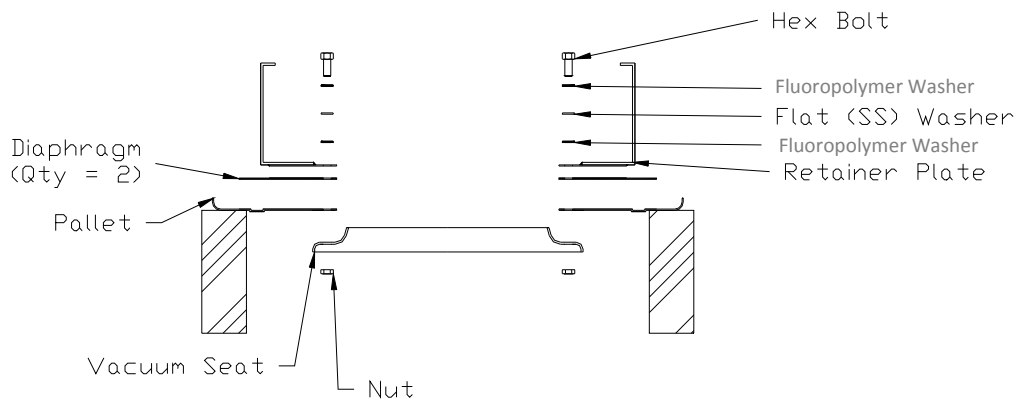

Figure 16: Exploded View of Pallet Assembly (Upside Down)
13. Turn pallet assembly upside down (Figure 16).
7. Align vacuum seat with pallet and insert 4 bolts (at 90 degrees from each other) from the top using fasteners shown in Figure 16 [7, 19, 20, 21].